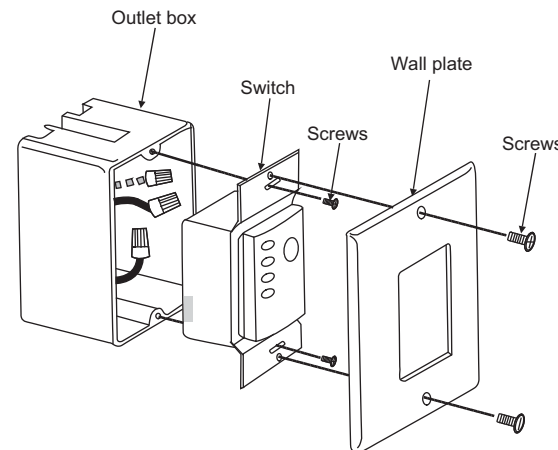

Fig. 22
Step 2. Install the wall plate on the existing wall outlet box using the screws provided. (Fig. 22)